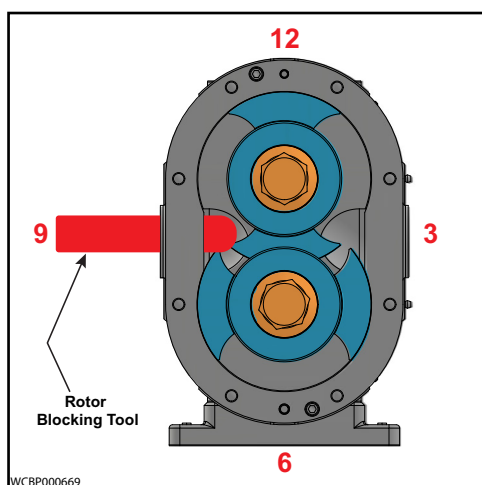

Figure 83 - Block overlapping Rotor
12. Slide the other Rotor (9) onto the shaft, then hand-tighten the Rotor Nut (26) to secure the Rotor (9).
13. Set the underlapping rotor wings to 6 o'clock and 12 o'clock. Set the overlapping wings to 3 o'clock and 9 o'clock. Insert the rotor blocking tool through the port to lock the overlapping rotor, as shown in *Figure 83*.